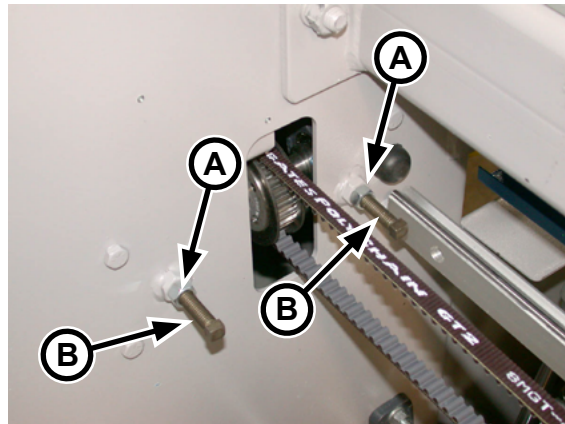

Figure 7-3: Upper spreader belt tension adjustment bolts on the inside of the left endframe.
2. Locate the upper spreader belt tension adjustment bolts on the inner wall of the upper left endframe (Figure 7-3, A).
3. Loosen the locknuts (Figure 7-3, B) and turn each bolt the same number of turns clockwise until the belt is properly tensioned.
5. Locate the upper spreader belt tension adjustment bolts on the inner wall of the upper left endframe (Figure 7-3, A).
6. Loosen the locknuts (Figure 7-3, B) and turn each bolt the same number of turns counterclockwise to relax tension on the belt.